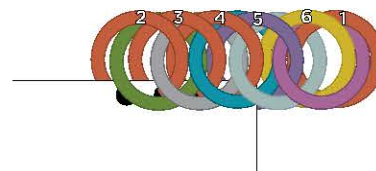

FIG. 9
16. Thread 1 of the remaining 2 open (pink) jump rings through the base-row (orange) jump ring just added, moving right to left from behind it. Then thread the open jump ring through the 2 adjacent base-row (purple/yellow) jump rings, moving left to right from the front. Close the open jump ring (**FIG 9**).